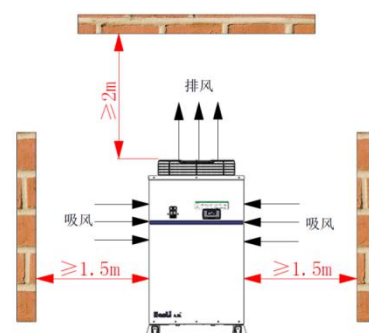

图 4 设备安装空间要求
- There must be no obstructions within 1.5m of the air inlet and 2.0m of the air exhaust to avoid affecting the heat dissipation of the equipment , as shown in Figure 4.